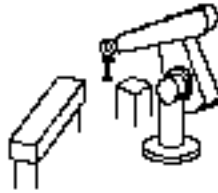

Figure 9. Vise safe location.
- 5) Press the JOINT button on the PUMA joystick and move the robot to the vise safe location. (The tool is vertical, the tool tip is midway between the quick change rack and the robot base, and the tool tip is slightly higher than the top of the quick change rack. See Figure. 9.)